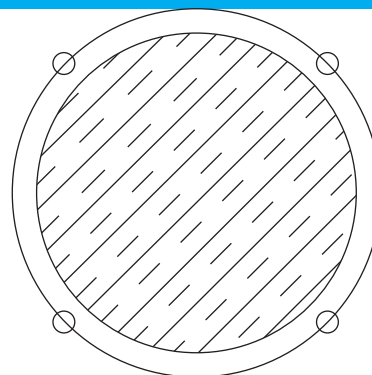

Figure 1: 2.25" Main Cutout. Four 0.170" mounting holes are on 2.625" diameter circle. Inner circle is 2.25".
- ▶ Dimensions for screen cutout are shown below, see Figure 1.